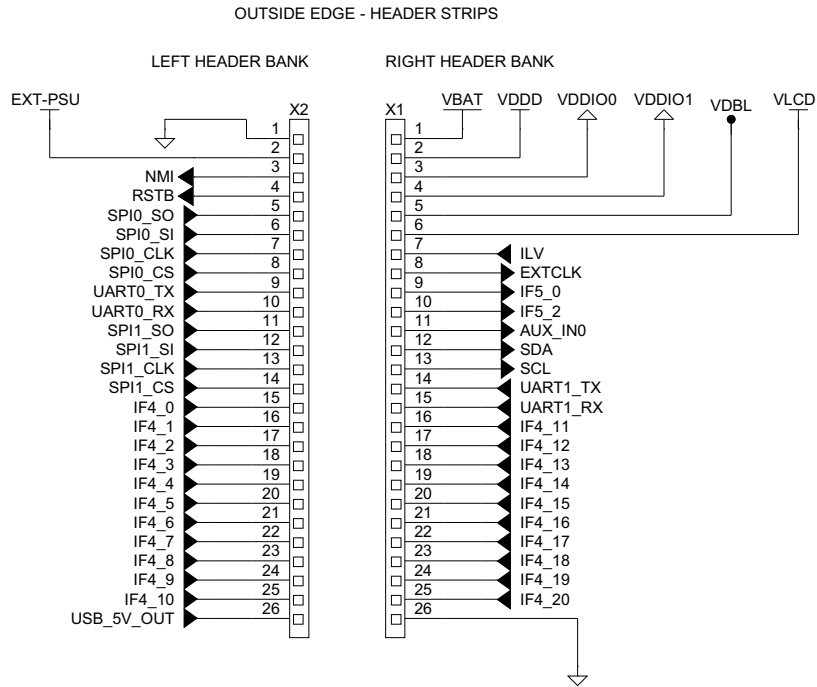

Figure 10: Digital and Power Input/Output Schematic
- Digital and power input/output schematic (Figure 10 on page 24)